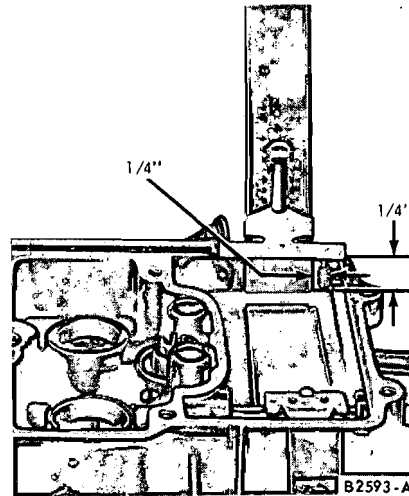

FIG. 22—Fuel Level Float Adjustment (Wet) — Typical For Autolite Models 2100 2-V and 4100 4-V
4. While the engine is idling, use a standard depth scale to measure the vertical distance from the top machined surface of the carburetor main body to the level of the fuel in the fuel bowl (Fig. 22). The measurement must be made at least 1/4 inch away from any vertical surface to assure an accurate reading, because the surface of the fuel is concave (higher at the edges than in the center). Care must be exercised to measure the fuel level at the point of contact with the fuel. Refer to the specifications (Part 10-11) for the correct fuel level (wet) setting.